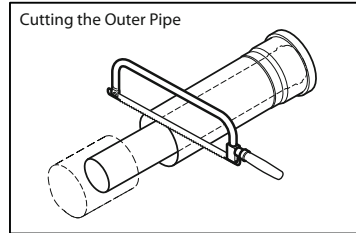

Figure 4
- (b) Use a hack saw with a metal cutting blade to cut through the outer pipe along the mark. **(Fig.4)**